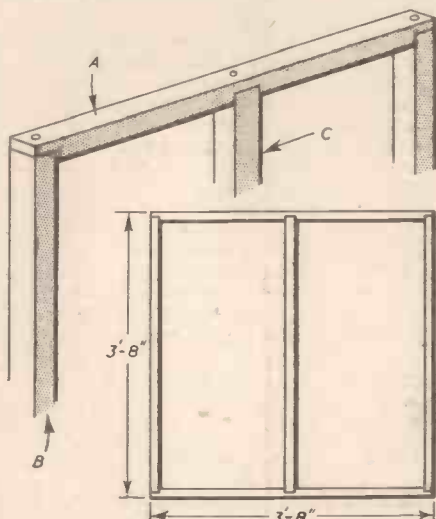

Fig. 2.—Details of the frame.
A simple frame is now made of the pieces (A), (B) and (C) as Fig. 2. Half-joint the horizontal (A) pieces which make the whole frame 3ft. 8in. square. Fit the central bar in recesses cut in the top and bottom horizontal.